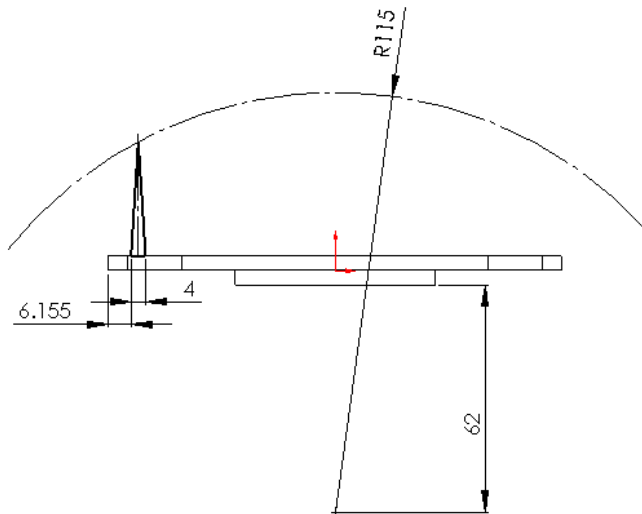

Figure 7-90 Sketch for the fin of the cylinder head
- e. Create the leftmost fin of the cylinder head by extruding the sketch. The sketch for this feature should be carefully dimensioned and defined, refer to Figure 7-90.
2. Using the line tool create the triangle and then create a vertical centerline that passes through the upper vertex to the triangle, refer to Figure 7-90.
shown in Figure 7-90. Select the arc and select the **For Construction** check box from the **Options** rollout of the **Arc PropertyManager**.
7. Add the required dimensions and relations to fully define the sketch as shown in Figure 7-90.